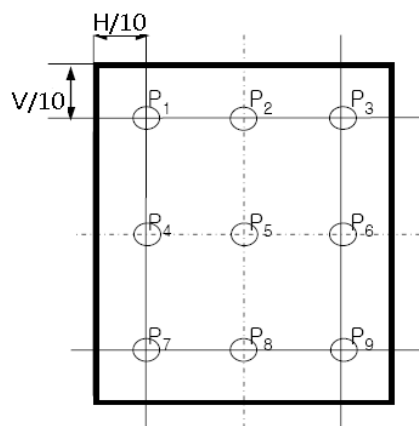

Figure 17: Uniformity Measurement Locations
3. Uniformity measurement shall be taken at the locations shown in FIG. 17, for a total of the measurements per display, measure surface luminance of these nine points across the LCD surface 50cm from the surface with all pixels displaying white.